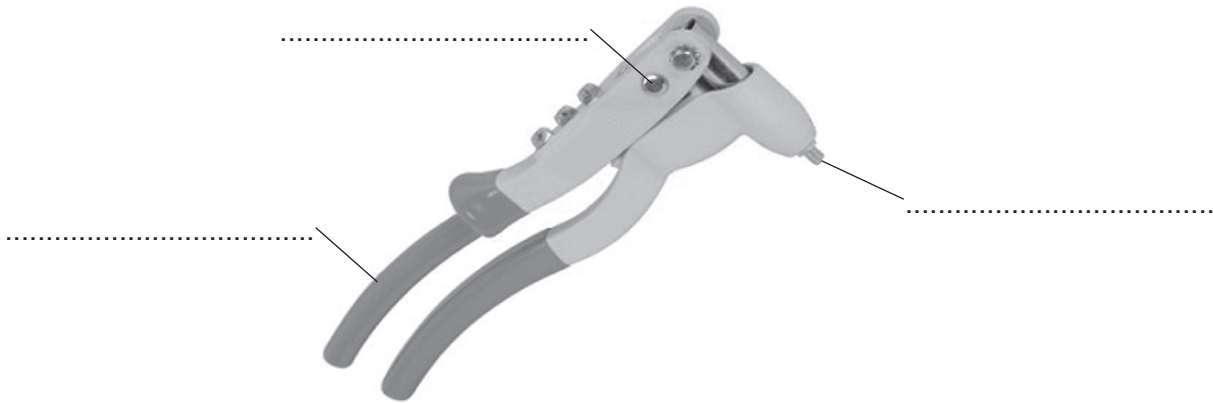

Fig. 9
- 18 (a) A pop rivet tool shown in Fig. 9 is an example of a class 1 lever. Name the **three** parts of the lever identified on Fig. 9.